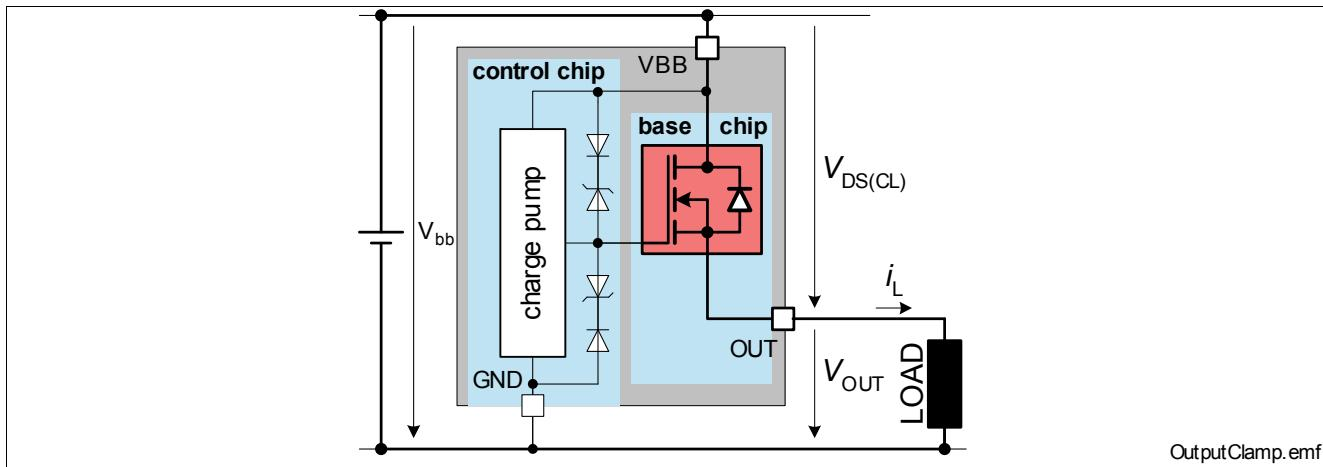
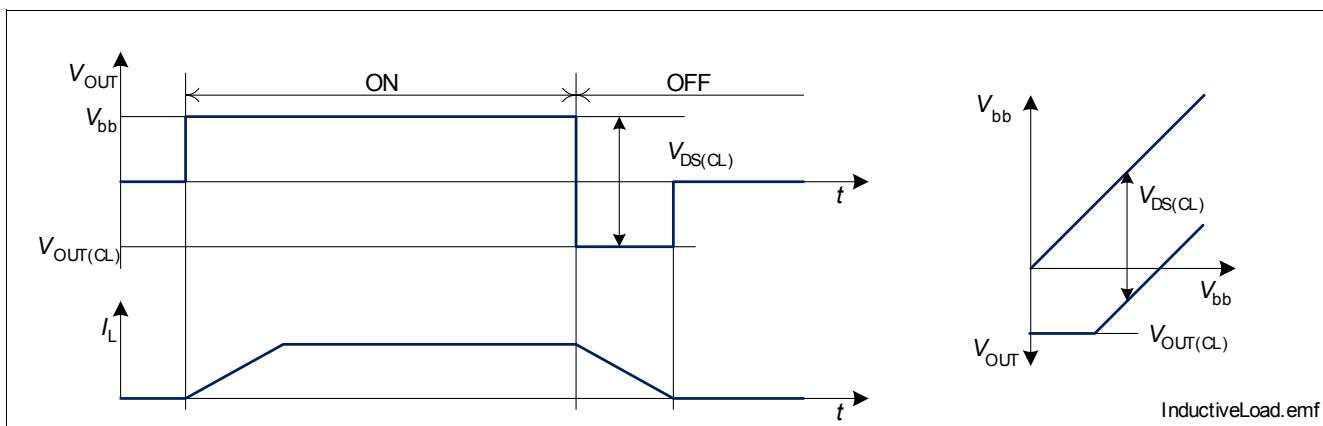

Figure 9 Output Clamp
Figure 10 Switching an Inductance
The power stage is designed for high side configuration (Figure 9).
To prevent destruction of the device, there is a voltage clamp mechanism implemented that keeps the voltage drop across the device at a certain level. At nominal battery voltage the output is clamped to $V_{OUT(CL)}$. At over voltages the output is clamped to $V_{DS(CL)}$. See Figure 9 and Figure 10 for details. The maximum allowed load inductance is limited.
- 5) See Figure 10.